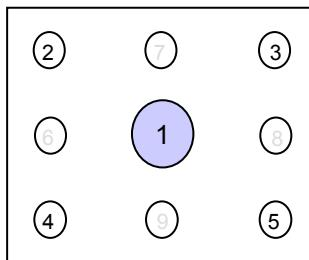

**FIG. 9 Viewing Angle**
5. Viewing angle is the angle at which the contrast ratio is greater than 10. The angles are determined for the horizontal or x axis and the vertical or y axis with respect to the z axis which is normal to the LCD module surface. For more information, see the FIG. 9.